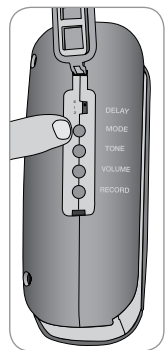

Fig. 5
3. Press MODE button on left side of alarm to scroll through the mode selections (Fig. 5).